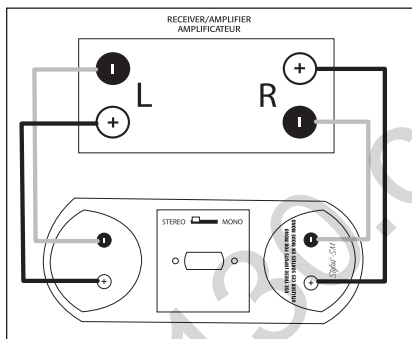

Fig. 5b **Wiring for "Left plus Right" sound from a Single Speaker (Stereo Input)**
**Stereo Input** (Single Speaker, "left plus right" channel sound) (Fig. 5b)